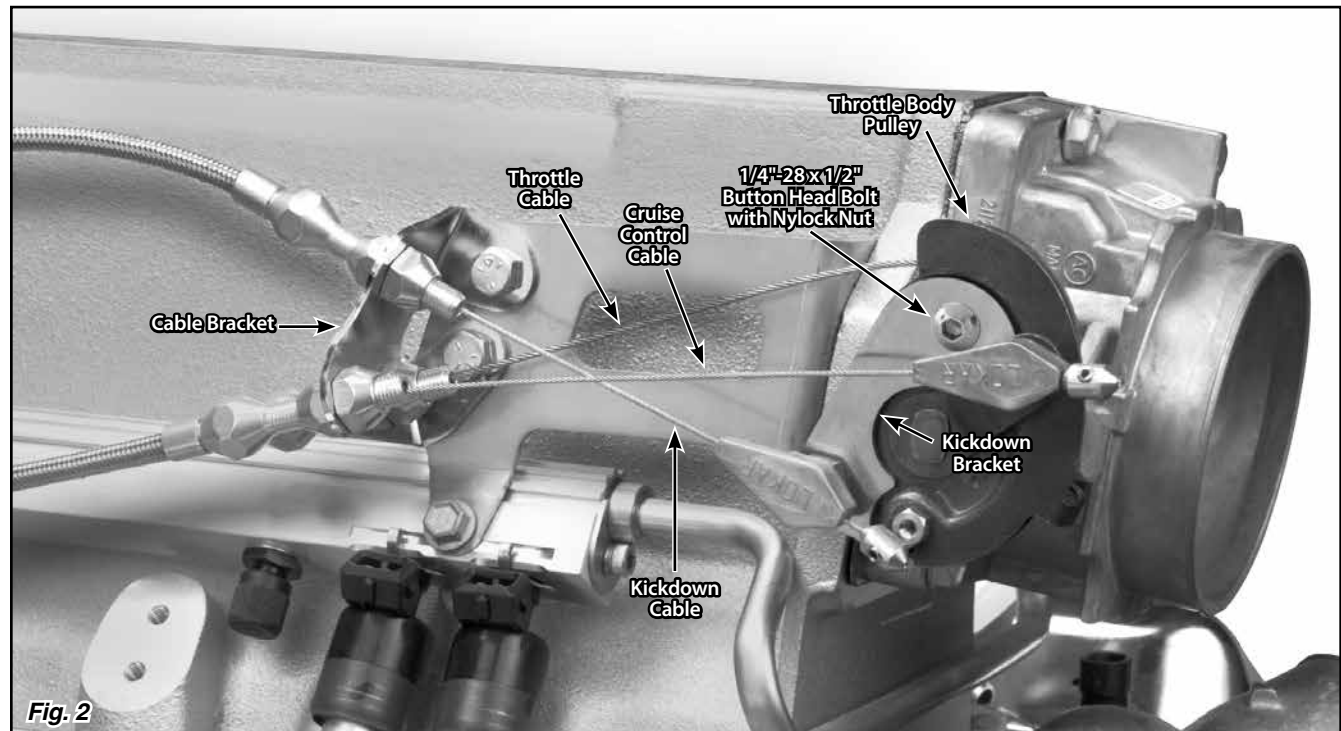

Fig. 2
**Step 2:** Install the new Lokar cable bracket in the same location as the original, using your original hardware, as shown in Fig. 2.
**Step 3:** If you are not using a kickdown cable or a cruise control cable, you will not need the new kickdown bracket, and you can proceed to **Step 4** now. If you are using a Kickdown Cable and/or a Cruise Control Cable, install the kickdown bracket onto the throttle body pulley as shown in Fig. 2. The kickdown stud and 1/4"-28 nylock nut will go in the bottom hole, and the 1/4"-28 x 1/2" button head bolt goes in the top hole.
Fig. 2 shows a completed installation with a Kickdown Cable and a Cruise Control Cable.